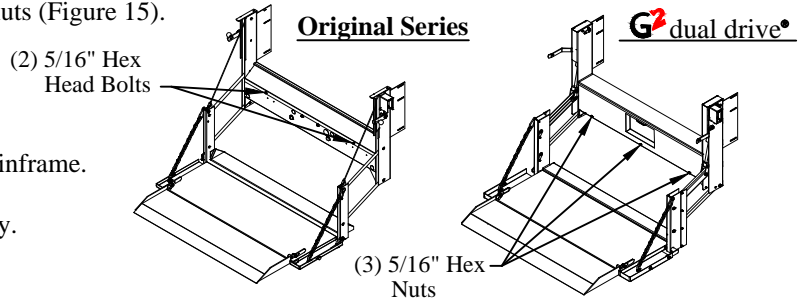

Figure 15: Box cover locations.
1. **Remove** the box cover by removing the 5/16" hex head nuts (Figure 15).
1. **Remove** the box cover by removing the 5/16" hex head bolts (Figure 15).